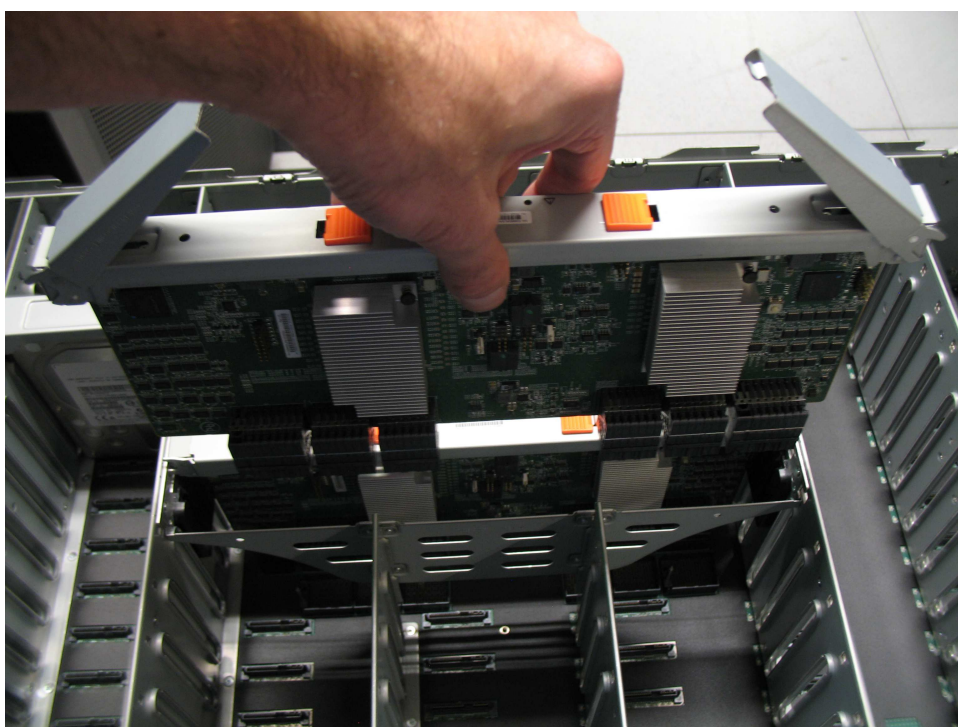

Figure 93. Remove the secondary expander module
4. Carefully lift the secondary expander module out of the enclosure, as shown in Figure 93.